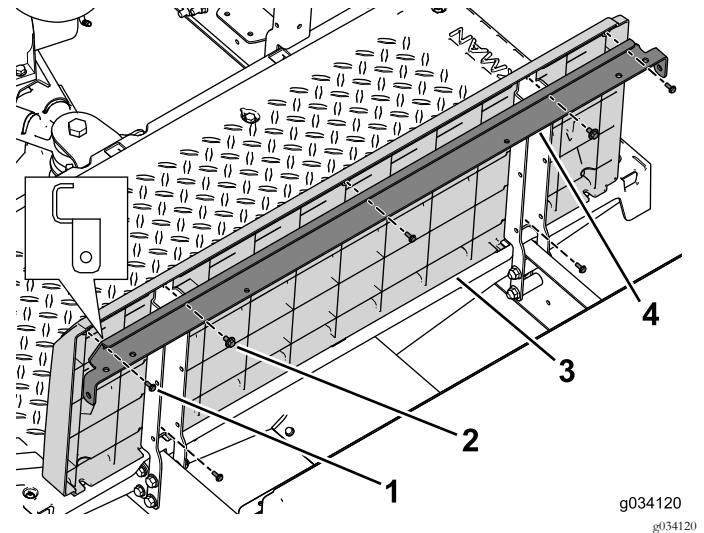

Figure 40
4. Use the 2 bolt with washer assemblies (1/4 x 1/2 inch) to secure the angled-support bracket and seat-base panel to the left and right seat support (Figure 40).
5. Use the 5 screws (#10 x 1/2 inch) to secure the back panel to the seat brace and the seat supports (Figure 40).